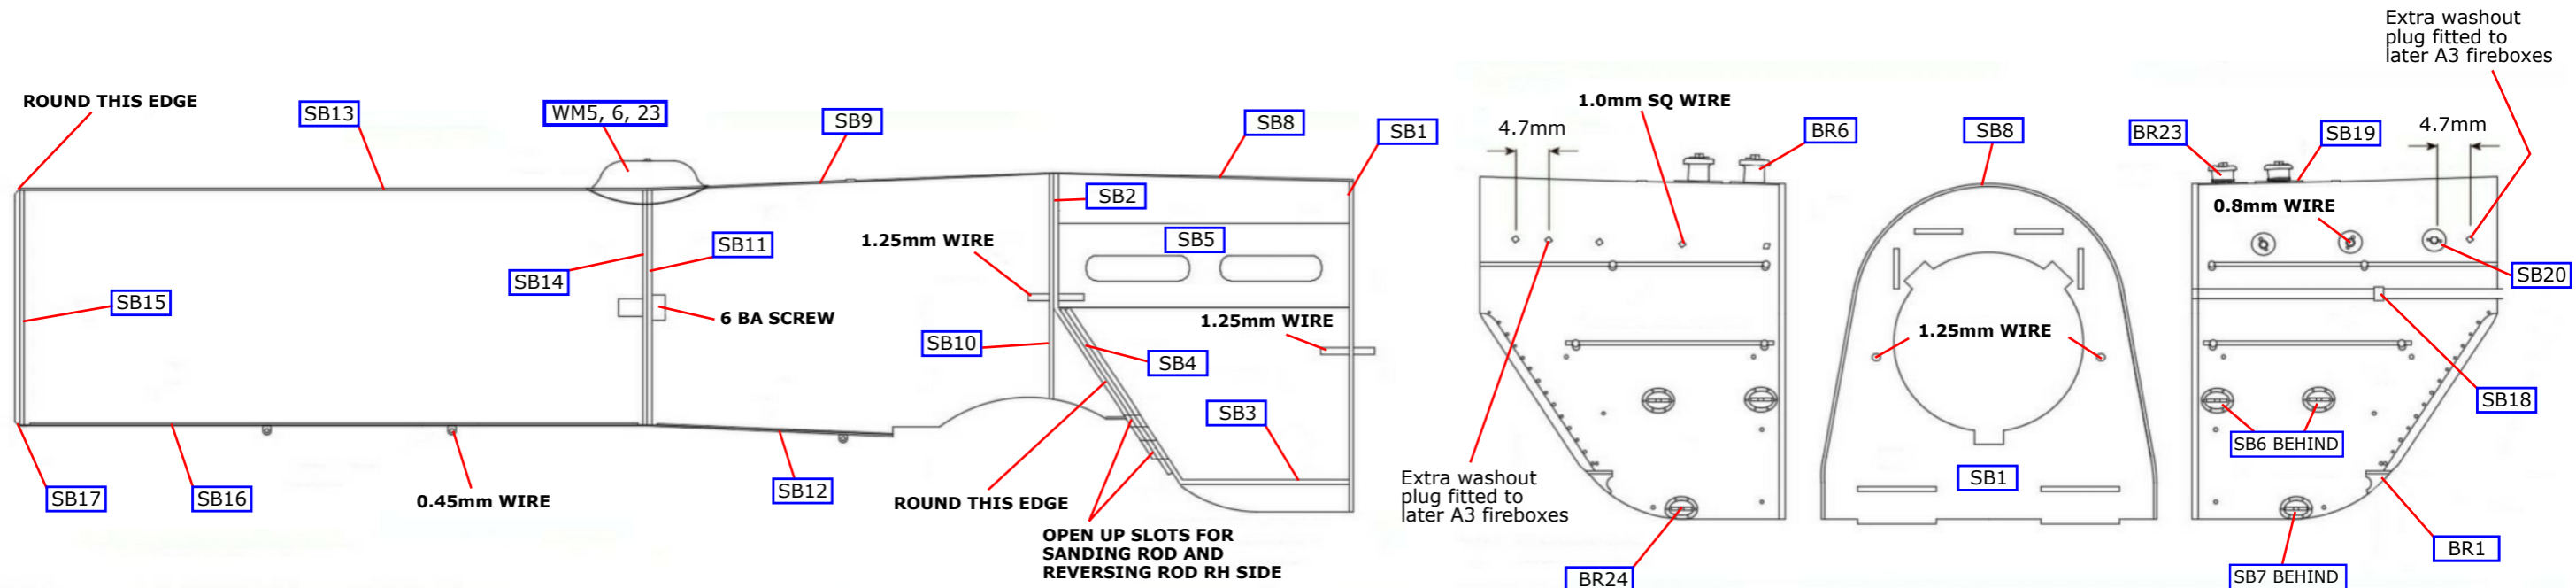

Fig 22. Boiler
**Smokebox - LTV.** The following parts are fitted once the firebox, boiler, smokebox has been assembled, see Fig.22.
Attach the cab to the boiler assembly and fit both to the footplate and secure (take care to pass the firebox end of the sanding rod FO32 through the small gap in the clothing), then carefully remove the footplate supporting structure and clean up the valance, buffer beam and drag beam lower edges. Add the steam pipes (Fig.20 & 21) and firebox footplate steps (Fig.22). Fit the eight nameplate brackets (FO44) to the middle splasher (four on each side).